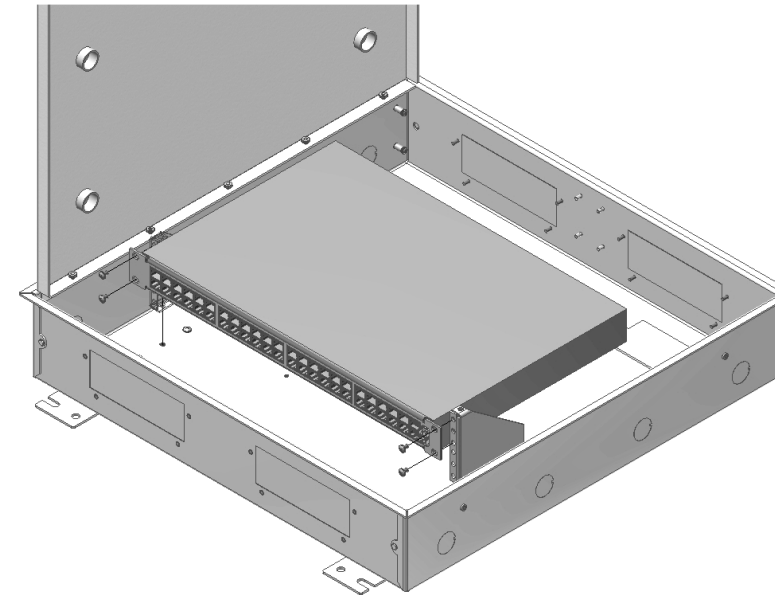

Figure 3
Step 3 – If using the optional rack mounting brackets (Oberon P/Ns 1611 and 1612, not included), adjust the position of the mounting brackets to allow the equipment power cord to be plugged into the receptacle. Install all rack mounted equipment to the mounting brackets with four (4) #10-32 screws. The maximum height the enclosure can accommodate is 2U and the maximum length is 14". The mounting brackets can be repositioned to fit networking equipment of various lengths (Figure 3).